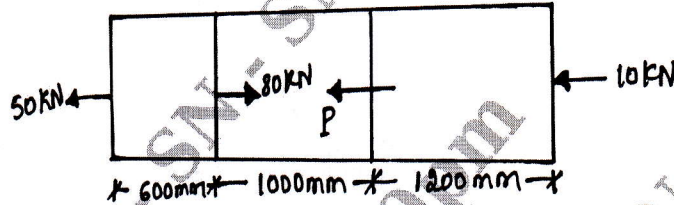

Fig.Q2(a)
b. A brass bar having cross section area of 1000 mm^2 is subjected to axial forces as shown in Fig.Q2(a). Calculate the force 'P' necessary for equilibrium of bar. Determine the total Elongation of the bar. Take $E = 1.05 \times 10^5 \text{ N/mm}^2$.